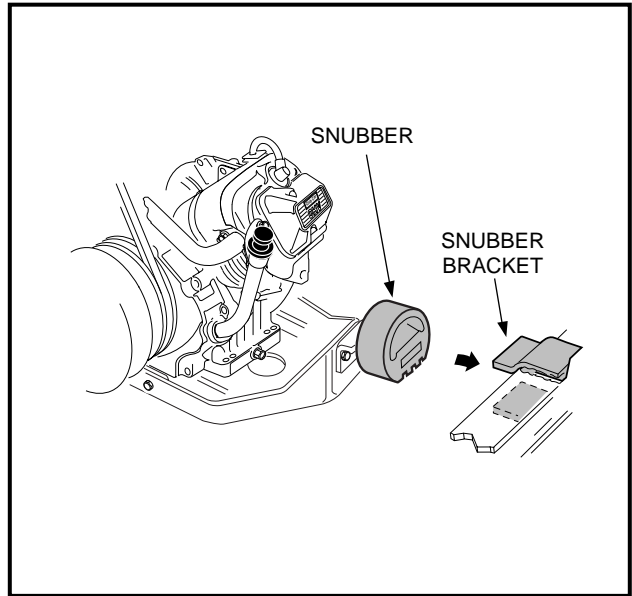

Figure 16-99 Snubber
14. Remove the blocks from under the engine and roll the powertrain into position under the vehicle. Then lift the front of the powertrain and place the snubber into the snubber bracket in the vehicle frame (**Figure 16-99, Page 16-41**).